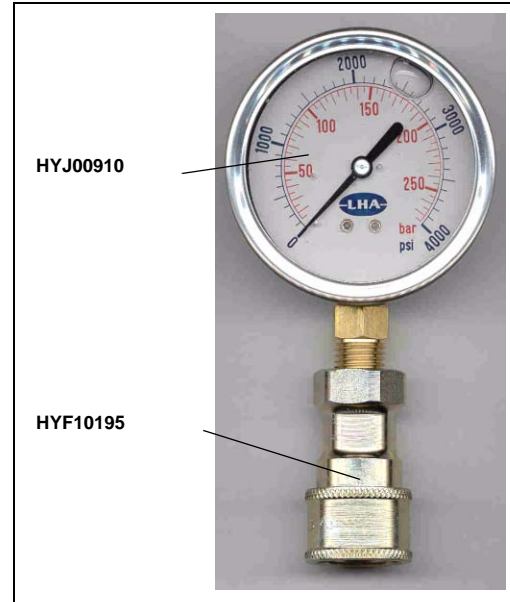

Figure 120. Quick-connect pressure gauge
6. Attach a 0-4000 PSI pressure gauge on the quick connect located on the hydraulic valve (see Figure 120. "Quick-connect pressure gauge").